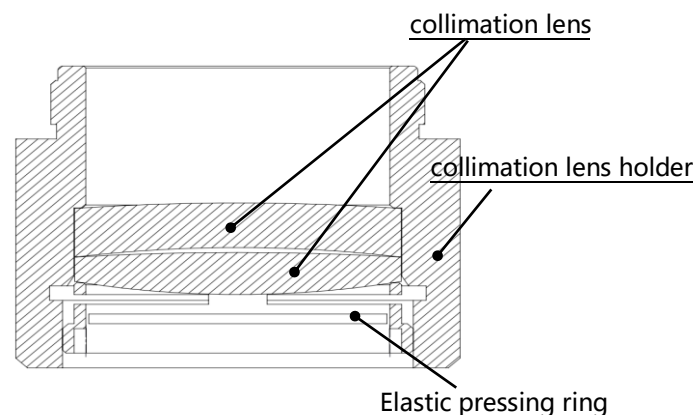

Figure 6.6 - Diagram of installing collimation lens
- As shown in Figure 6.6, reassemble the components of collimating lens in order, pay attention to screw the spring compression ring appropriately with force, and re-screw it into the collimating components;